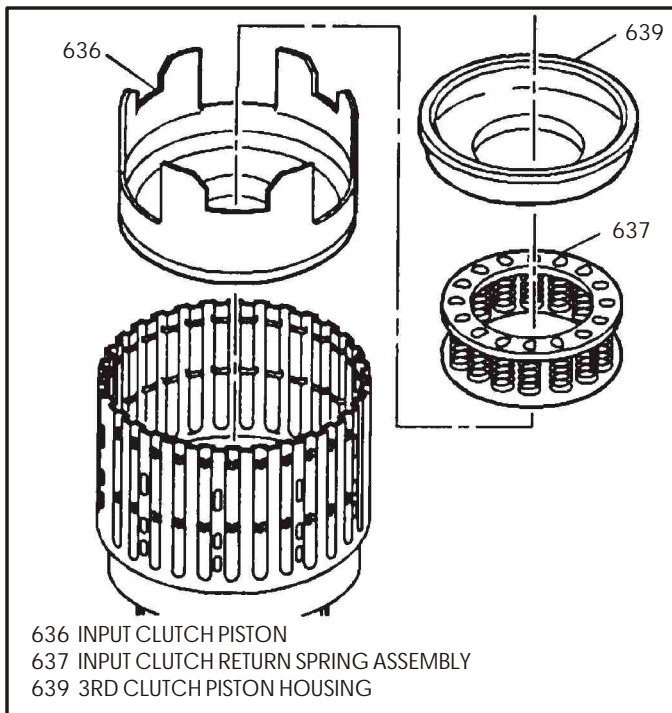

Figure 109
23. Install the input clutch piston into the input housing by rotating into position, as shown in Figure 109.
24. Install the input clutch return spring assembly on top of the input clutch piston, as shown in Figure 109.
25. Lubricate the inside diameter of the 3rd clutch piston housing with petrolatum, and install it into the housing on top of the return spring and be careful not to damage the "O" ring. Refer to Figure 109.